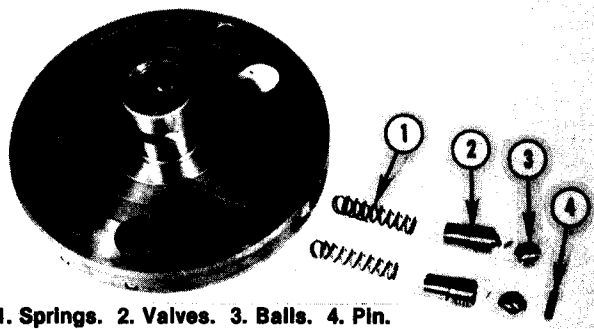

FIG. 4.61-ACCELERATION VALVE PARTS
e. Removed components are shown in Fig. 4.61, No. 1, springs, No. 2, valves, No. 3 balls and No. 4, retaining pin.